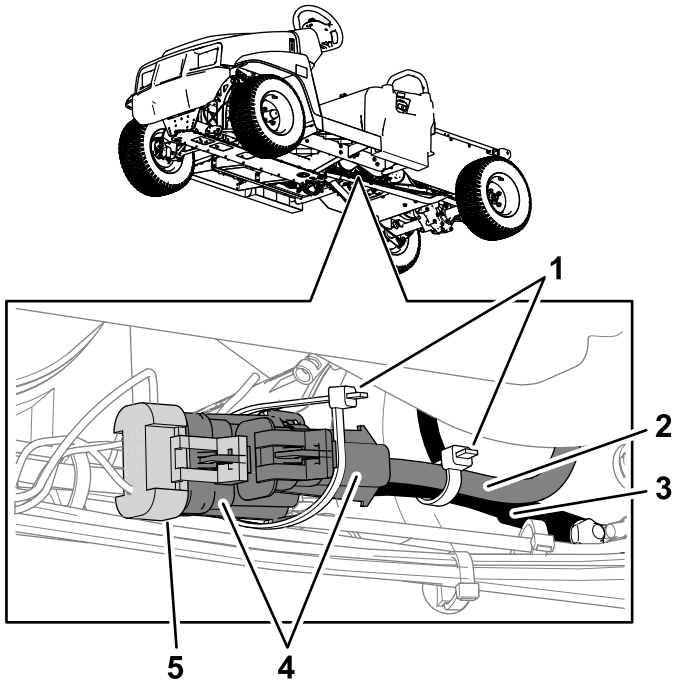

Figure 14
1. Connect the machine wire harness to the engine wire harness (Figure 14).
2. Use a cable tie to secure the 2 connectors of the engine wire harness together. Then, use the other cable tie to secure the engine wire harness to the battery ground (black) cable (Figure 14).